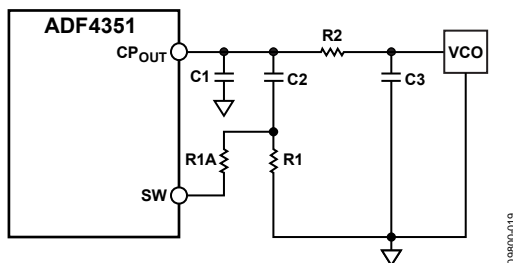

Figure 32. Fast Lock Loop Filter Topology 2
- An extra resistor (R1A) is connected directly from SW, as shown in Figure 32. The extra resistor is calculated such that the parallel combination of the extra resistor and the damping resistor (R1) is reduced to one-fourth the original value of R1 (see Figure 32).